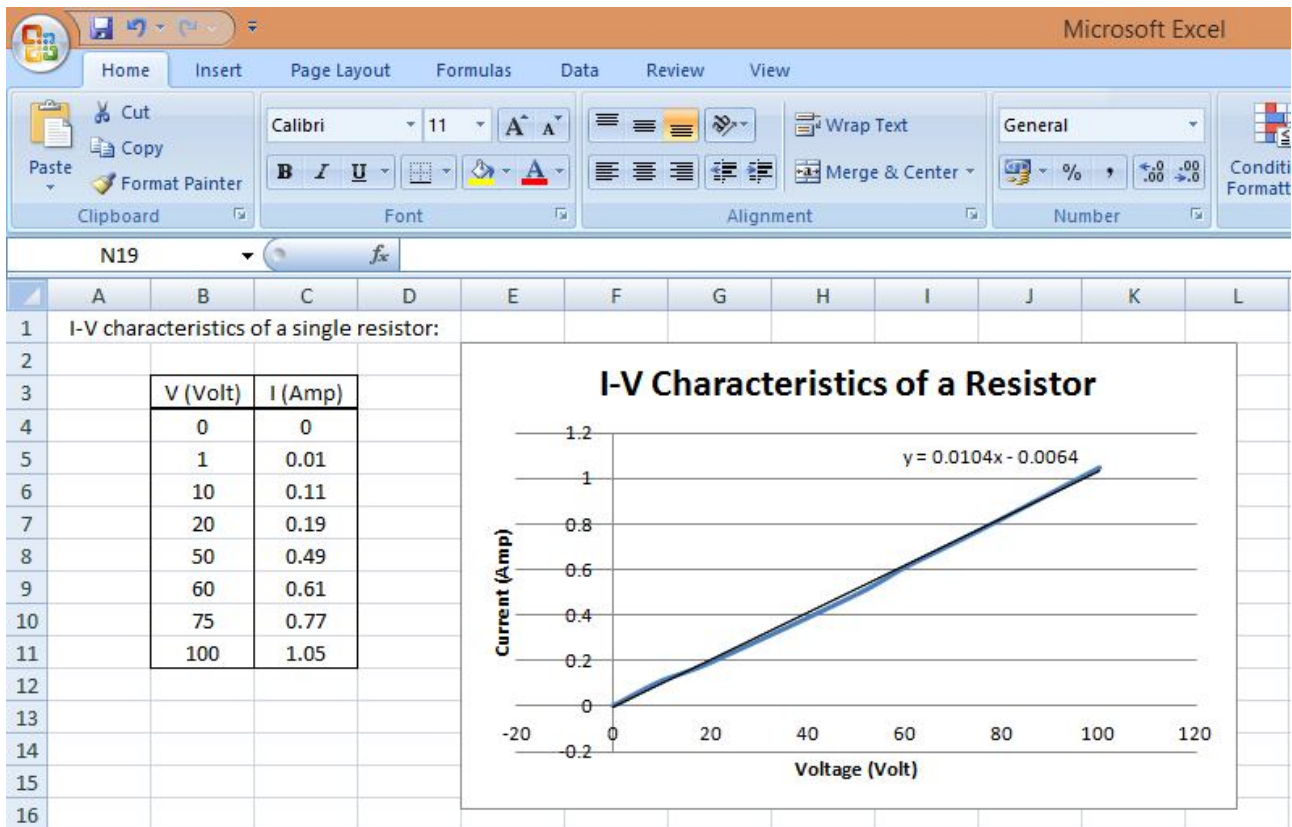

Figure 9
9. The final plot will be as shown in Figure 9. The value of the slope (as seen from the equation of the Trendline) is 0.0104 and its inverse is 96.15. Thus the value of the resistor used is 96.15Ω (which is very close to the actually used 100Ω resistor).